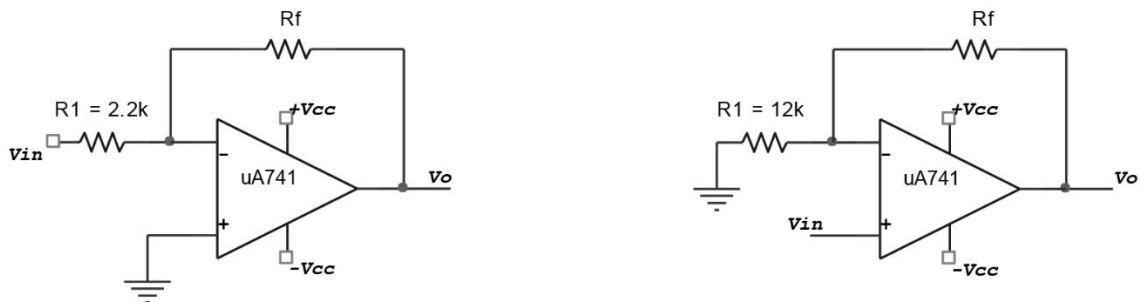

Figure 2
3. Find the value of  $R_f$  that will produce closed-loop gain of 300 in each amplifier in Figure 2.